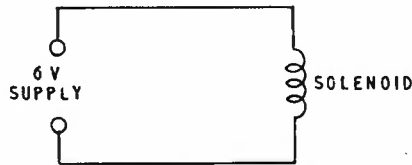

FIG. 1.
- STEP 1. Connect solenoid to 6 volt supply (Fig. 1).